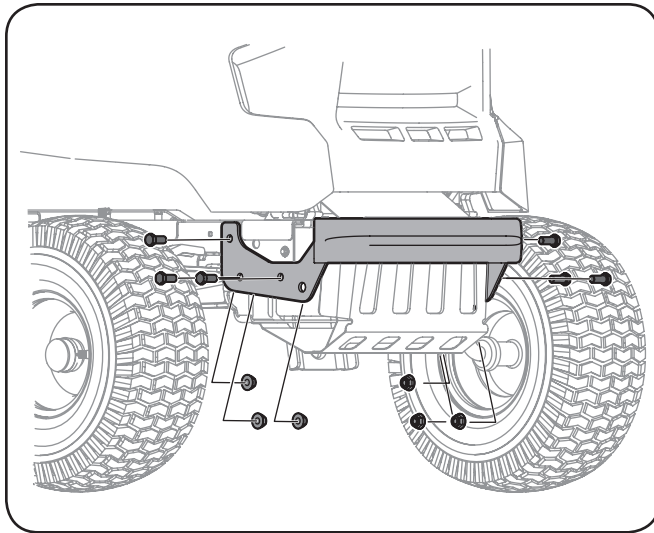

Figure 3-1
1. Using two $\frac{3}{16}$ " wrenches, secure the bumper to the tractor frame with six hex screws and flange lock nuts. See Figure 3-1.